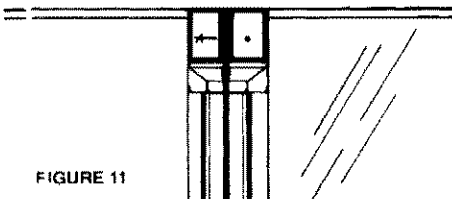

FIGURE 11
2. Check alignment of doors at TOP CENTER. See Figure 11. If doors are aligned, go to step 4.